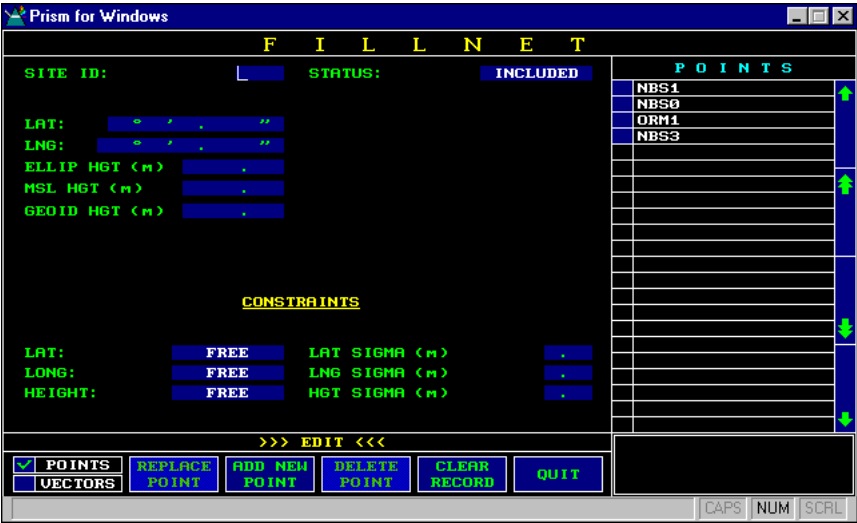

Figure 3.5: EDIT POINTS Menu
- 9. Click on **EDIT SITE**. The **EDIT POINTS** menu, Figure 3.5, will appear. In the **POINTS** area at the right side of the display you will see a list of points from the files you just loaded.